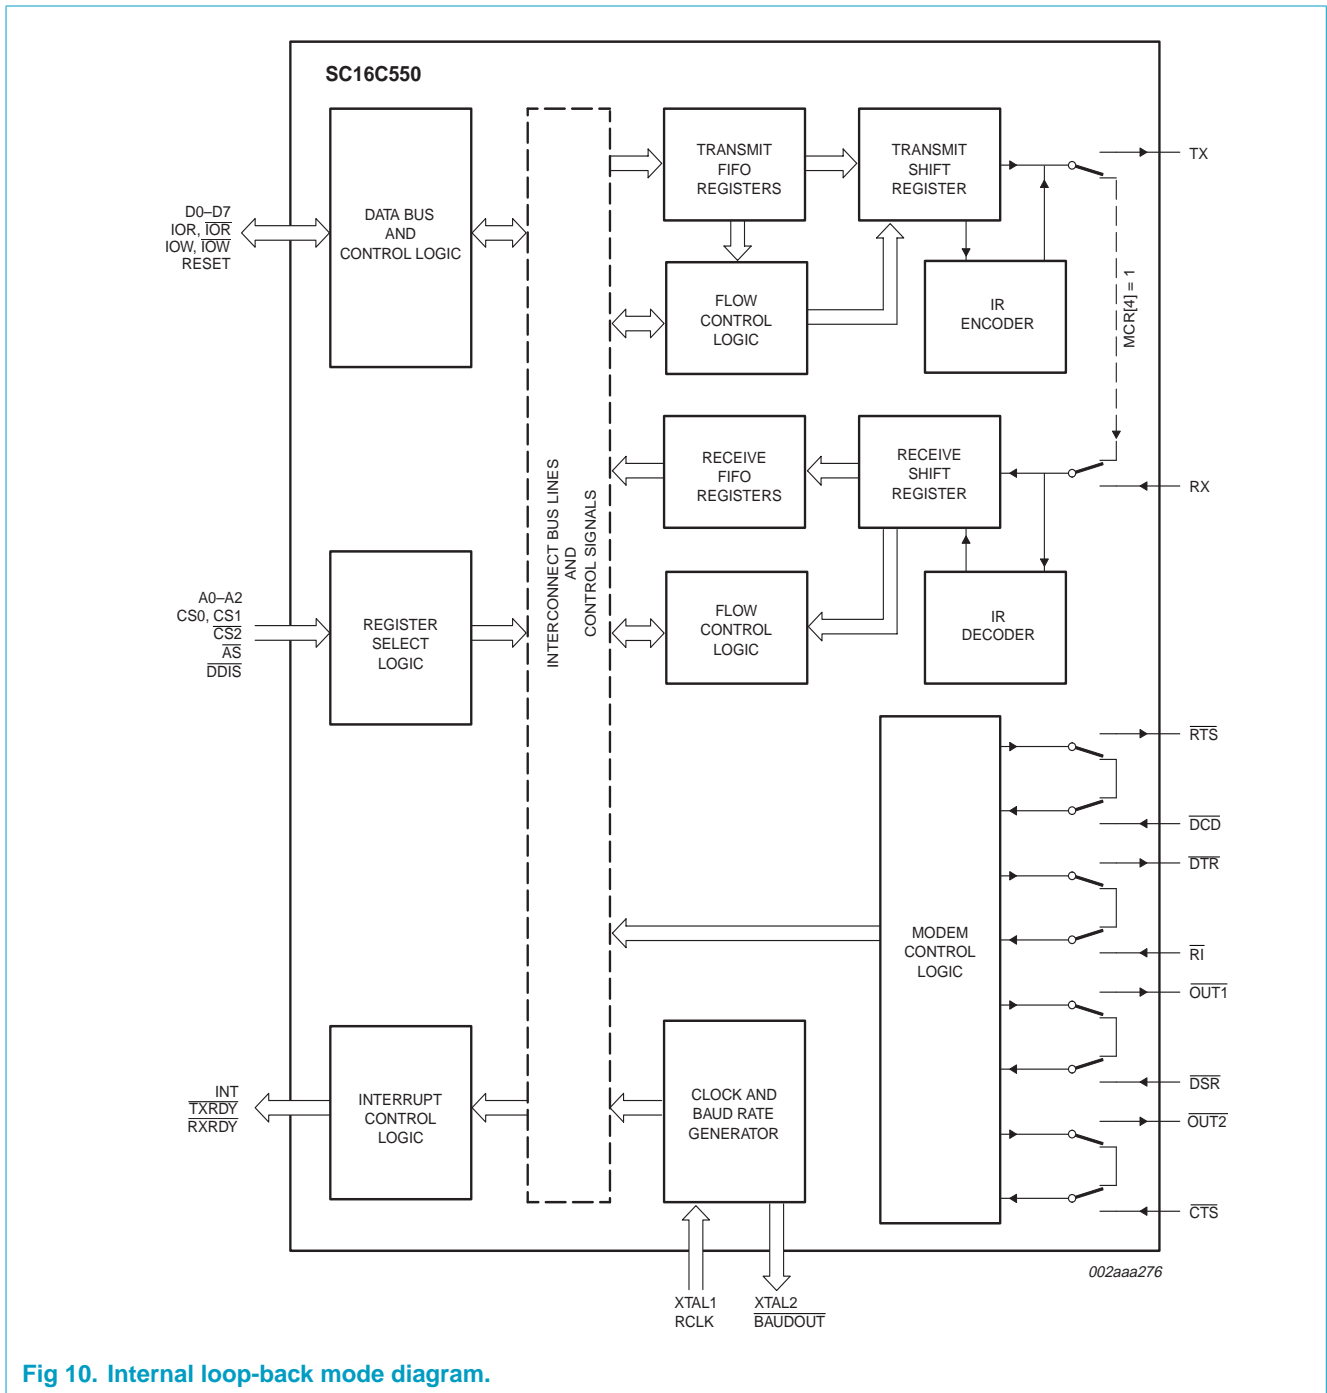

Fig 10. Internal loop-back mode diagram.
The internal loop-back capability allows on-board diagnostics. In the loop-back mode, the normal modem interface pins are disconnected and reconfigured for loop-back internally. MCR[0-3] register bits are used for controlling loop-back diagnostic testing. In the loop-back mode, OUT1 and OUT2 in the MCR register (bits 3-2) control the modem  $\overline{RI}$  and  $\overline{DCD}$  inputs, respectively. MCR signals  $\overline{DTR}$  and  $\overline{RTS}$  (bits 0-1) are used to control the modem  $\overline{CTS}$  and  $\overline{DSR}$  inputs, respectively. The transmitter output (TX) and the receiver input (RX) are disconnected from their associated interface pins, and instead are connected together internally (see Figure 10). The  $\overline{CTS}$ ,  $\overline{DSR}$ ,  $\overline{DCD}$ , and  $\overline{RI}$  are disconnected from their normal modem control input pins, and instead are connected internally to  $\overline{DTR}$ ,  $\overline{RTS}$ ,  $\overline{OUT1}$  and  $\overline{OUT2}$ . Loop-back test data is entered into the transmit holding register via the user data bus interface, D0-D7. The transmit UART serializes the data and passes the serial data to the receive UART via the internal loop-back connection. The receive UART converts the serial data back into parallel data that is then made available at the user data interface D0-D7. The user optionally compares the received data to the initial transmitted data for verifying error-free operation of the UART TX/RX circuits.